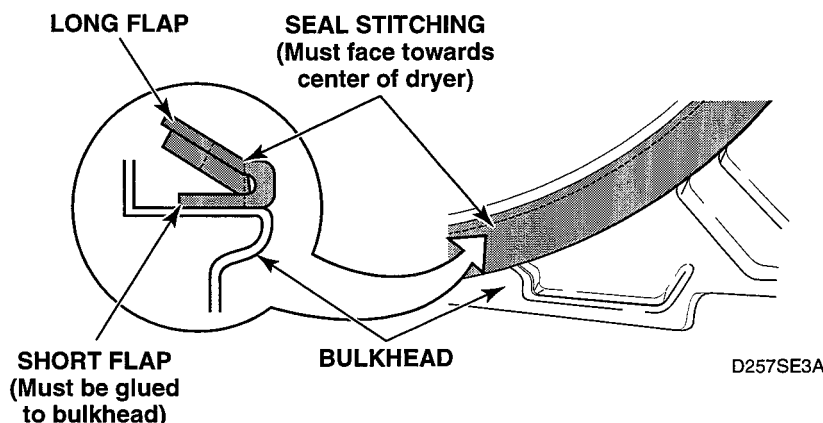

Figure 5-26
j. Front Cylinder Seal (Figure 5-26)
- (1) The stitching on the seal must face towards the dryer center. See figure 5-26.
- (2) The short flap, shown in figure 5-26, must be glued to the bulkhead and the long flap left loose.